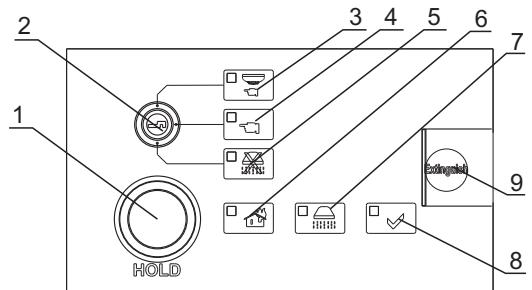

Fig.4
- Indicator "Power supply" - Module is power supplied (pos.8, fig.4)
- Common Indicator "Fire Condition 2nd Stage" – continuous red light (pos.6, fig.4)
- Indicator "Manual Mode" – continuous yellow light (pos.4, fig.4)
- Indicator "Manual-Auto Mode" – continuous yellow light (pos.3, fig.4)
- Indicator "Disable Extinguishing" – continuous yellow light (pos.5, fig.4)
- Indicator "Low Pressure" – fault condition Low pressure into the Extinguishing installation - continuous yellow light (pos.7, fig.4)
- Manual/Auto – Turns the secret keyswitch in position "Manual/Auto mode". The LED is on (pos.3, fig.4);
- Manual Mode – Turns the secret keyswitch in position "Manual". The LED is on (pos.4, fig.4).
- Disable Extinguishing - Turns the secret keyswitch in position "Disable Extinguishing". The LED is on (pos.5, fig.4);
- Hold Extinguishing – press button "HOLD". The evacuation time is extended (pos.1, fig.4);
- press the button to activate the extinguishing (pos.9, fig.4).